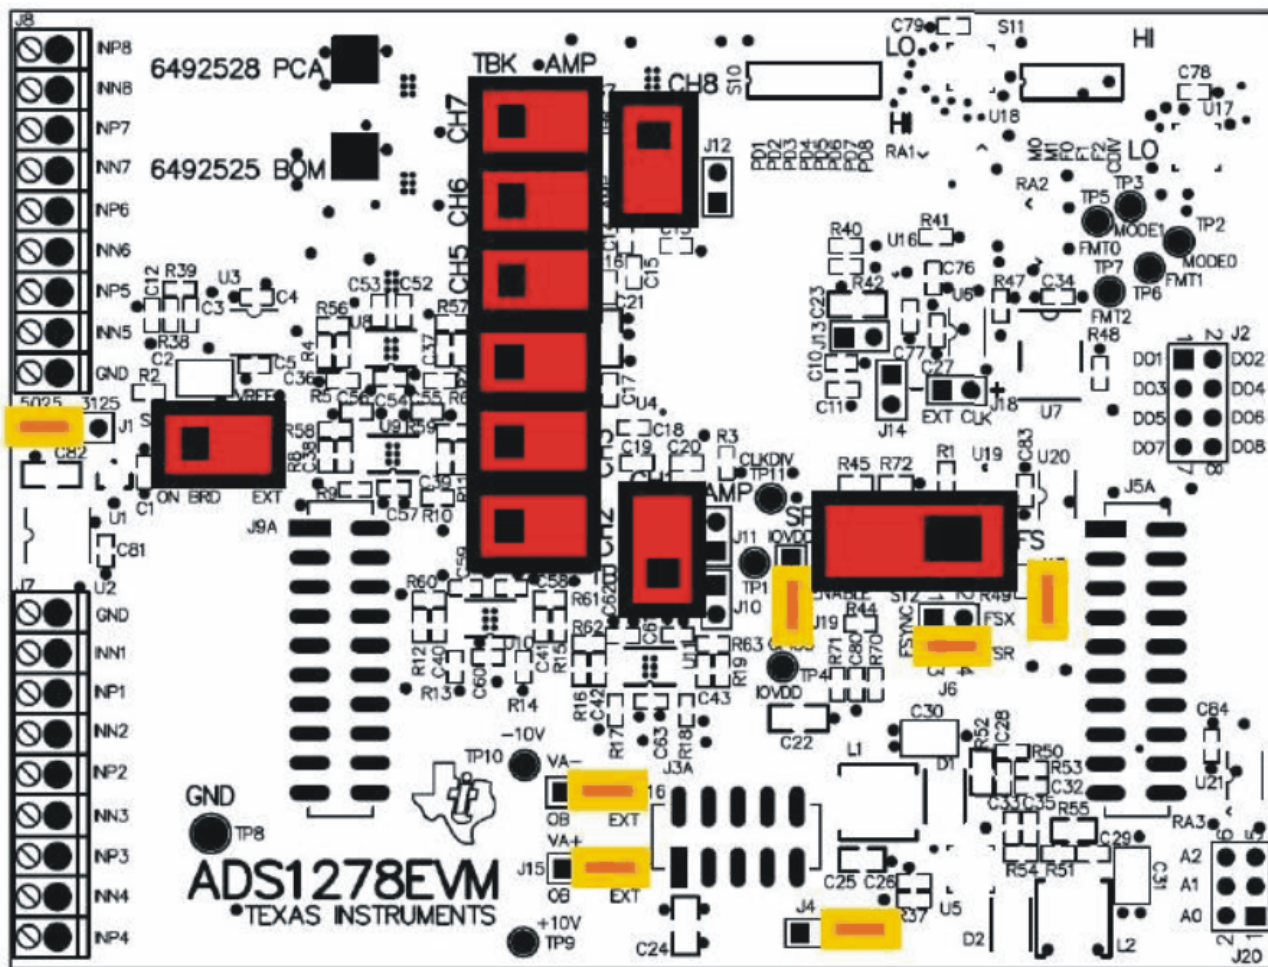

Figure 7. ADS1278EVM Default Jumper Locations
Figure 7 shows the jumpers found on the EVM and the respective factory default conditions for each.
Step 4. Set the jumpers and switches on the ADS1278EVM as shown in Figure 7 (note that these settings are the factory-configured settings for the EVM). Note that the default configuration for the EVM is to use external $\pm 10V$ supplies for the input amplifiers.